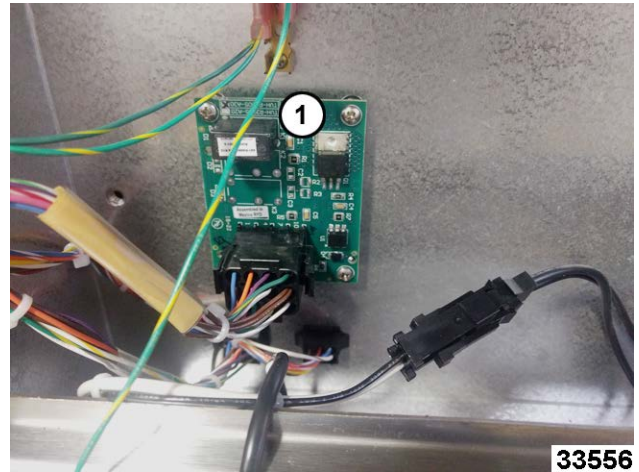

Fig. 40
2. Disconnect interface board wire harness plug (1, Fig. 40).
3. Remove interface board mounting screws (2, Fig. 40).